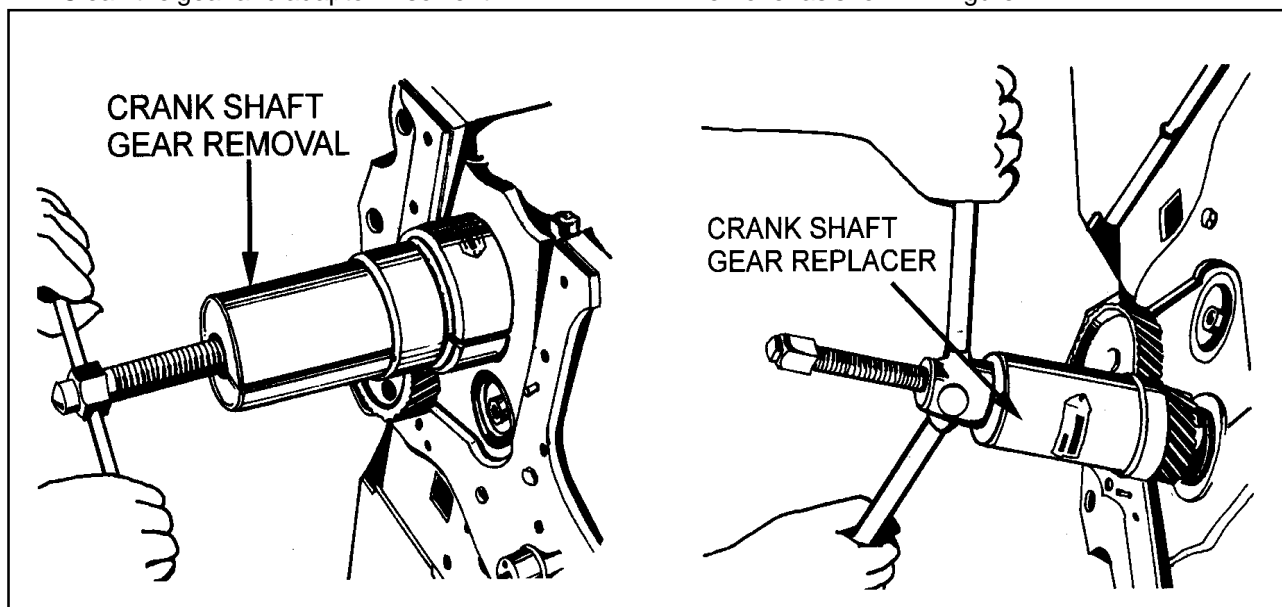

Figure 17
Remove the crankshaft gear with Crankshaft Gear Remover as shown in Figure 17.
2. Install the crankshaft gear with crankshaft gear replacer as shown in Figure 17.